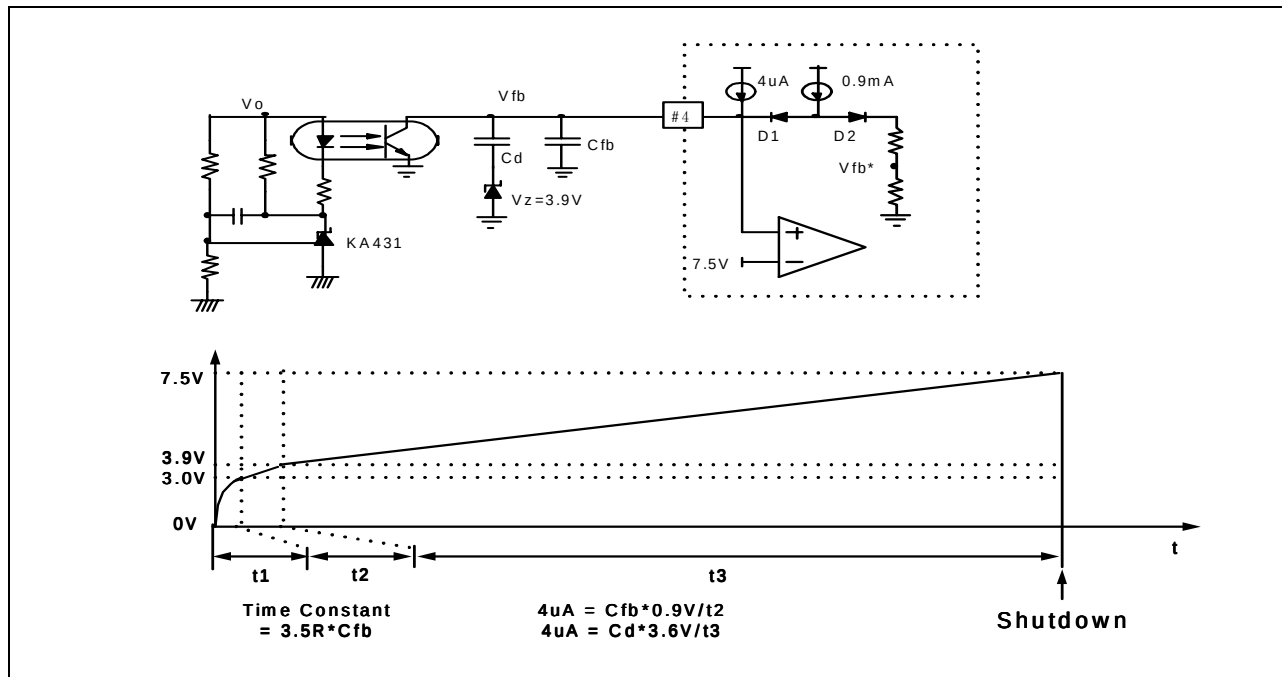

Figure 3. SPS Delayed Shutdown
SPS shutdown. If a part of delay current go through the added resistor, the time to shutdown can be lengthened. In our test the delay shutdown time with  $C_{fb}$ (473) and resistor (3.9M) is about two times longer than with only  $C_{fb}$ (473). When  $V_{fb}$  is 7.5V, the current flowing through this 3.9M resistor is approximately 1.9uA. To obtain the same results, if a zener diode (about 3.9 ~ 4.7V) in series connection with a capacitor is parallel-connected to  $C_{fb}$ , as depicted in Fig 3., the desired shutdown delay time could be obtained according to the size of the capacitor.